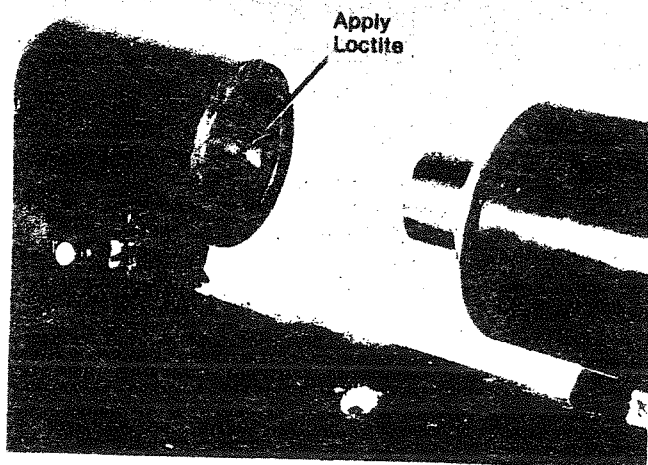

Figure 35
1. Apply a bead of Loctite #2114 to the first 1/2" of the link screw threads. See figure 35.